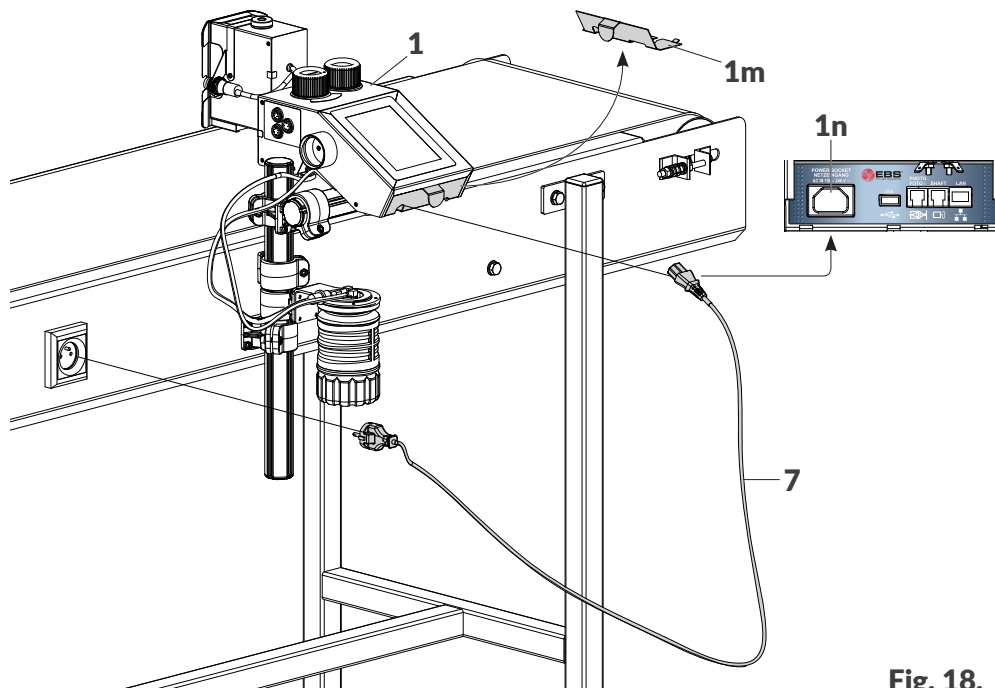

Fig. 18.
15. Remove guard **1m**, which protects connection sockets on the back panel (see Fig. 18).
16. Plug power cord **7** into connector **1n** in control unit **1** and into an electric outlet with the earth pin (see Fig. 18).